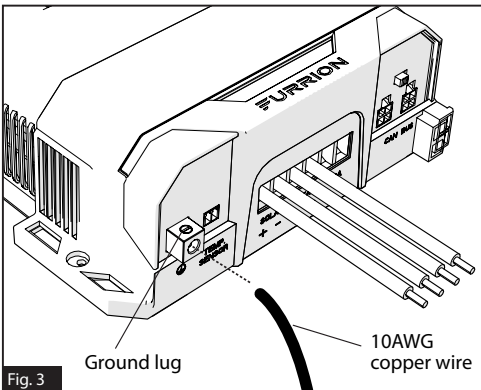

Fig. 3
- Loosen the ground lug screw located on the left side of the mounting bracket. Insert a 10AWG copper wire from this lug to chassis ground. Tighten the ground lug screw securely. The suggested torque force should be 25lbs-inch. (Figure 3)